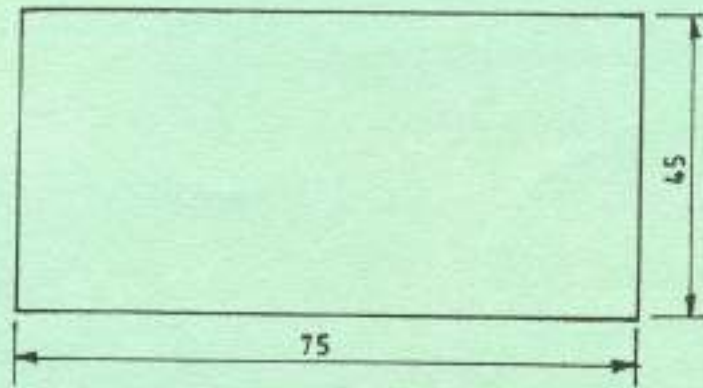

Fig. 5
- (b) Construct a triangle equal in area to the rectangle shown in figure 5 and inscribe a circle on the triangle.